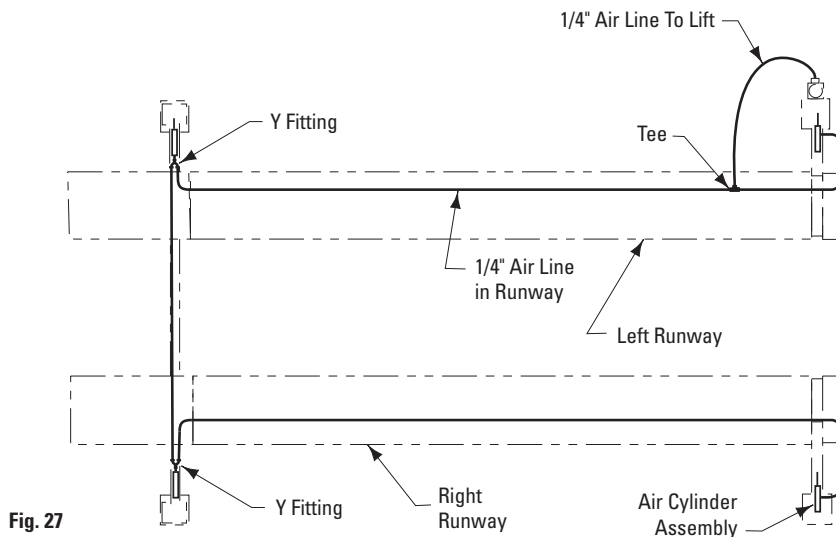

Fig. 27
- F. Attach enclosed NP280 decal (ACTUATE TO RELEASE LATCHES) on bracket. Run 1/4" air line from air valve to the slot in the fixed runway. Cut air line and attach to Tee in front yoke, Fig. 27. This air line is for locking latches.
- G. Run 1/4" air line from the Tee of the runway slot through the hole in the rear yoke and into the air cylinder, Fig. 27.